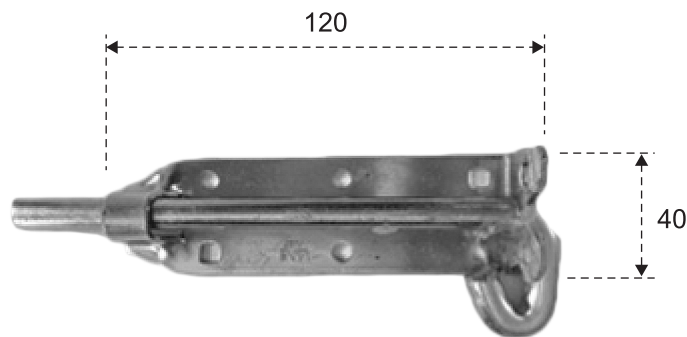

Figure 18
- d. The padbolt shown in Figure 18 will be used to lock the gate. The padbolt is approximately 120 mm × 40 mm, and has Ø 6.5 mm holes for attachment.